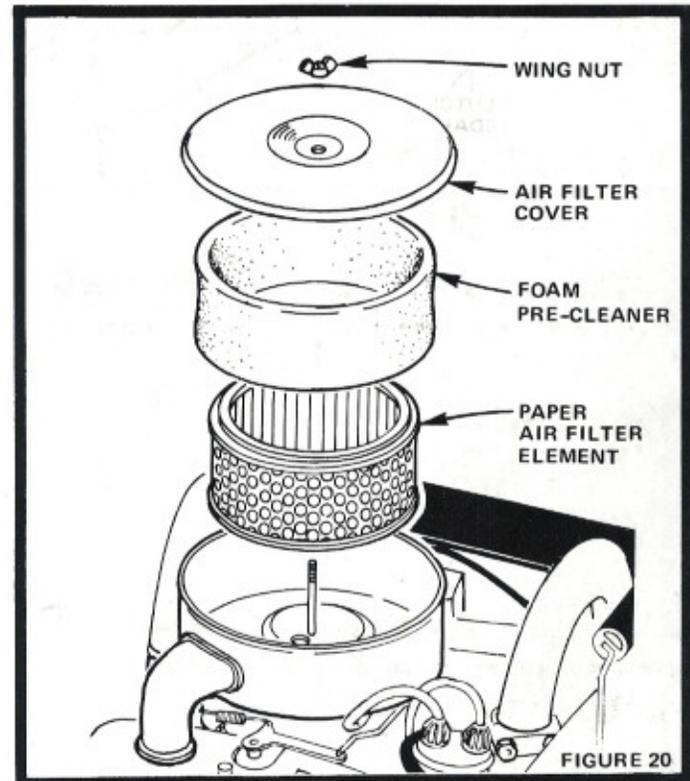

FIGURE 20
- a. Unscrew Wing Nut (Fig. 20) to remove Air Filter Cover Paper Air Filter Element and Foam Pre-Cleaner.